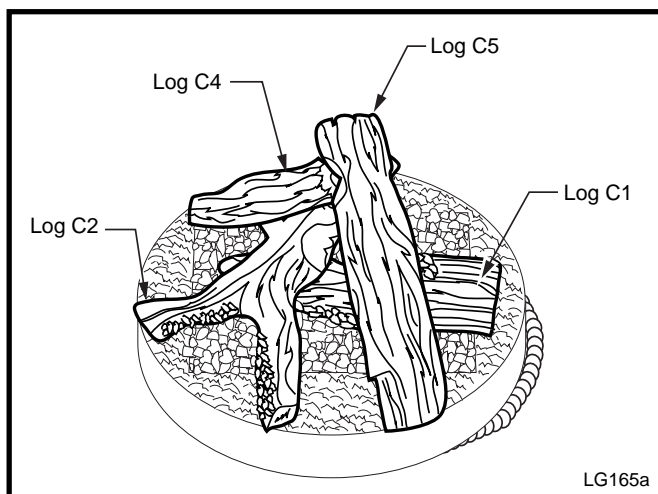

Fig. 14 Log C5 placement.
8. Flex line on right. Place log C5 with the notch at the top resting next to log C3. (fig. 14)